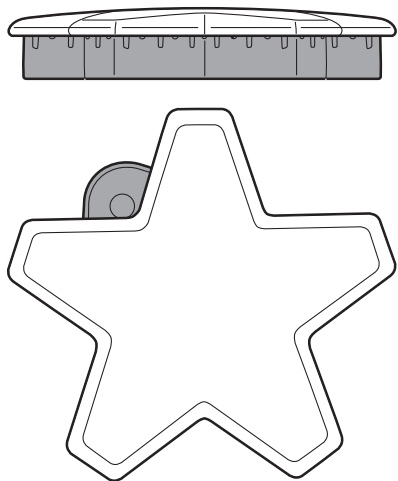
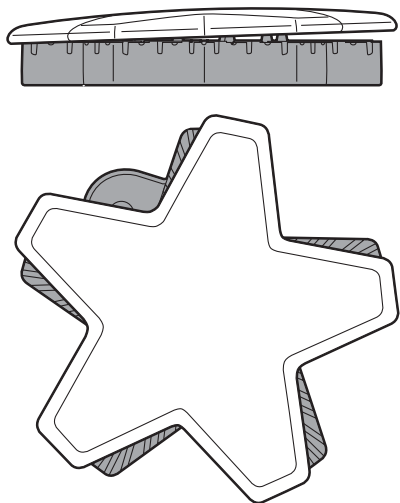

Figure 13: Correct Burner Cap Placement
Figure 14: Incorrect Burner Cap Placement
- Check each burner to make sure there is no gap between the burner cap and burner base. See *Figure 13* and *Figure 14* for examples of correct and incorrect placements of the burner cap.
- You may gently try to move the burner caps from side to side to check if the caps are properly placed on the burner bases. When properly placed, each burner cap will rest flat on top of its burner base, and completely cover the star-shape of the burner base when viewed from the top as shown in *Figure 13*.
Each STAR® burner has its own electronic igniter that sparks when the burner is turned on. Each burner should light in 4 seconds or less. If a burner does not light, check to see that the burner cap is positioned correctly on the base (see *Figure 13*).